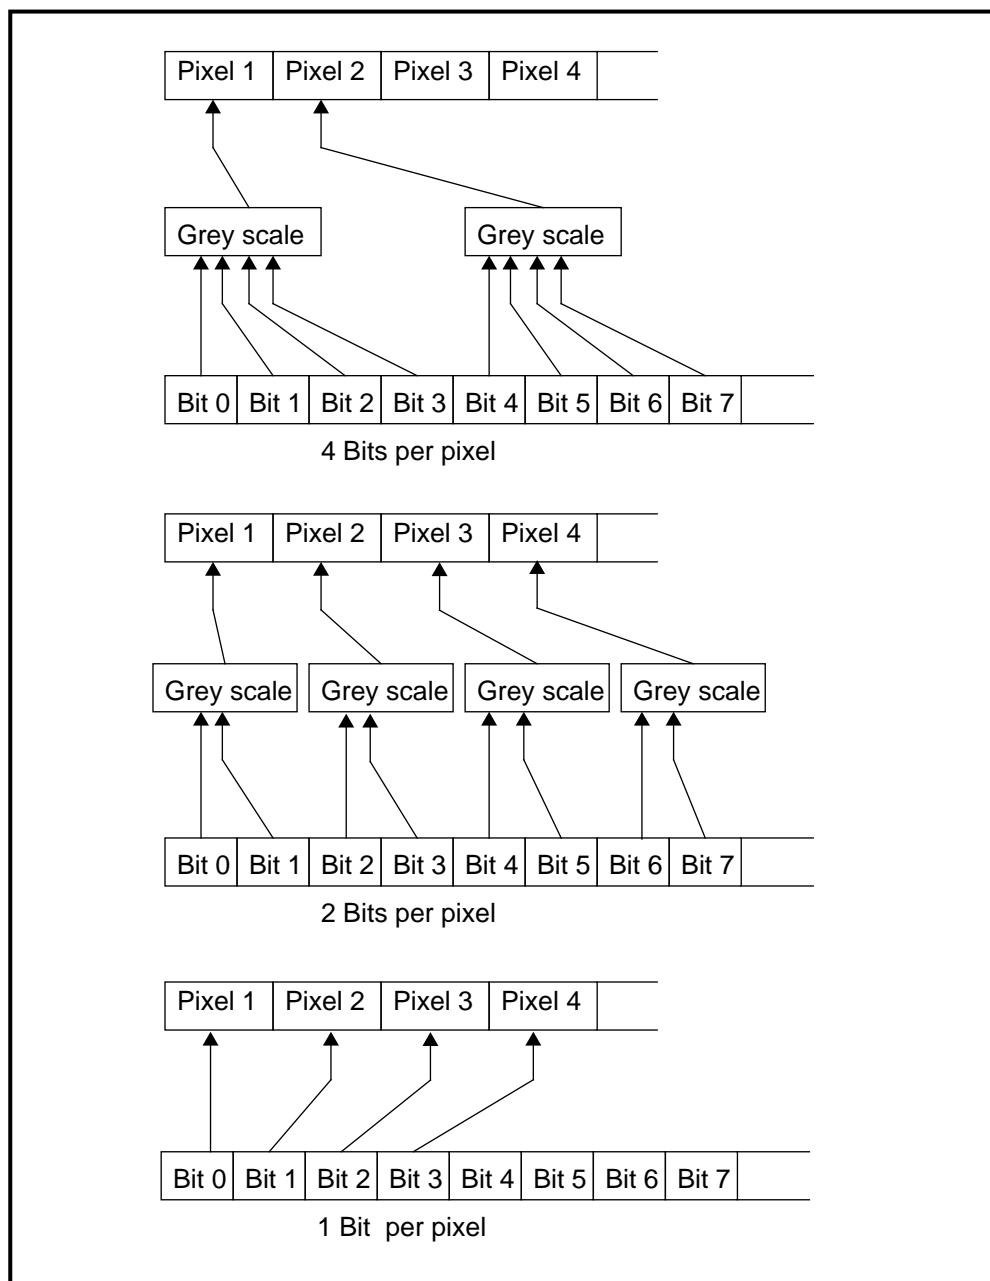

Figure 14-1: Video Buffer Mapping
► *Figure 14-1: Video Buffer Mapping* on page 14-3 shows the organisation of the video map for all combinations of bits per pixel.